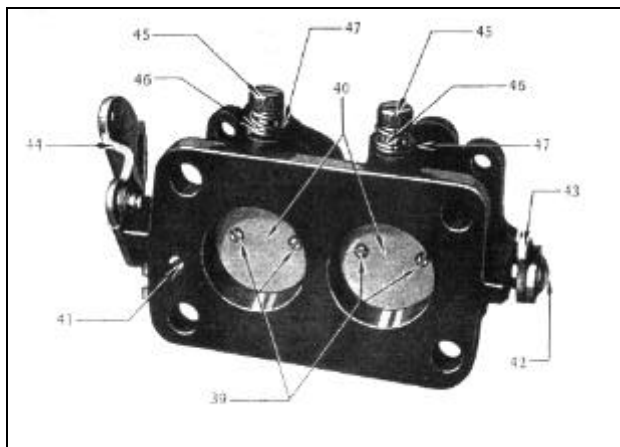
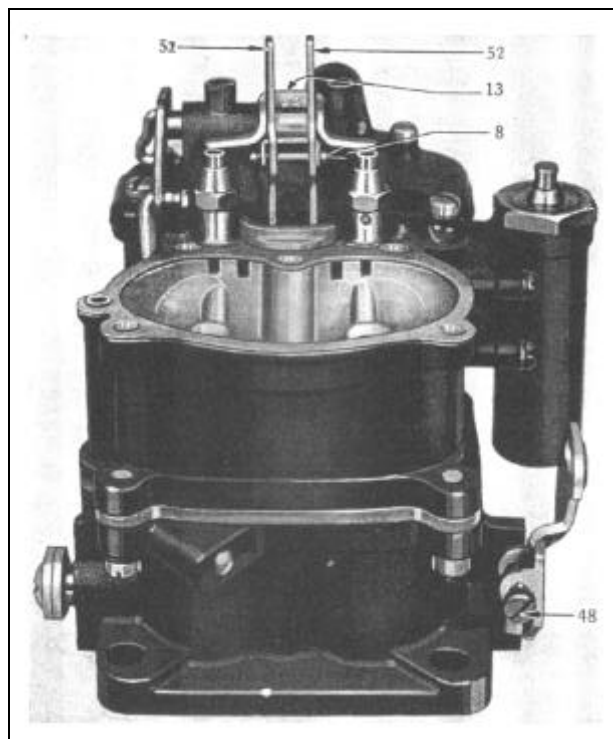

Figure 429
Figure 432
(112) Remove the four throttle valve attaching screws (39) and both throttle valves (40) (Figure 429).
(113) Remove throttle centering screw (41), throttle shaft arm attaching screw (42), throttle shaft washer and throttle shaft arm (43) (Figure 429).
(114) Now remove throttle shaft and lever assembly (44) (Figure 429).
(115) Remove idle adjustment screws (45) and springs (46) (Figure 429).
(116) Remove both idle port plugs (47) (Figure 429).
(121) With carburetor body flange facing up, install throttle shaft and lever assembly (44) (Figure 429). Then back out throttle lever adjusting screw (48) (Figure 432). If throttle shaft is worn, damaged or lever is loose on shaft, replace it.
(122) Install throttle centering screw (41) (Figure 429). If it shows wear, replace.
(123) Install throttle valves (40) using new valve screws (39) (Figure 429). The trade mark "C" on the throttle valve should be facing up and to the idle port side. With the valve screws loose, tap throttle valves lightly to centralize them in the bore of carburetor. Hold valves in place with fingers, and securely tighten screws. Be sure throttle lever adjusting screw is backed off, so valves can seat. If valves are worn or damaged, replace.
(124) Install throttle shaft arm (43), throttle shaft washer and throttle shaft arm attaching screw (42) (Figure 429).
(126) Install idle passage plugs (47). Install idle adjusting screws (45) and springs (46) (Figure 429). If idle adjusting screws are burred, replace. Adjust idle screws IA to 'L.Y1 turns open from seat.
A. Remove air horn and climatic control assembly (Figure 432).
B. Back out throttle lever adjusting screw (48) so that throttle valves close tight, and loosen anti-percolator arm screw (13) (Figure 432).
C. Remove pin spring from metering rod pin and slide the pin from metering rod arm, taking care that pin spring and metering rod springs are not bent or lost. Lift out metering rods and remove brass metering rod disc retainer (17) by loosening small brass screw. Remove, but do not lose the two small metering rod discs beneath this plate.
D. Insert two metering rod gauges (52), tool No. T 109-27 (included in Tune-up Kit) in place of metering rods, seating tapered end in metering rod jet. Put metering rod pin (8) in place in metering rod arm. Turn metering rod lever (14) on shaft until metering rod pin rests at bottom of notches in metering rod gauges allowing for .005 inch variation on